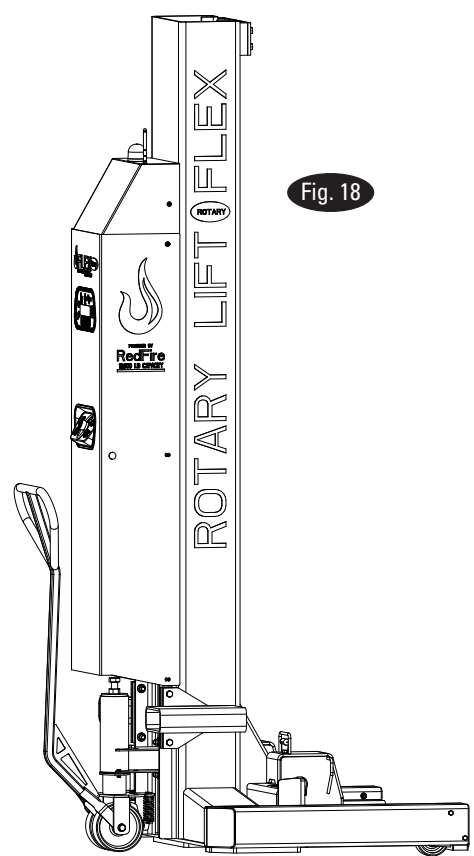

Fig. 18
- b.) Caster handle locks on wheel when handle is pivoted to the upright position, Fig. 18.